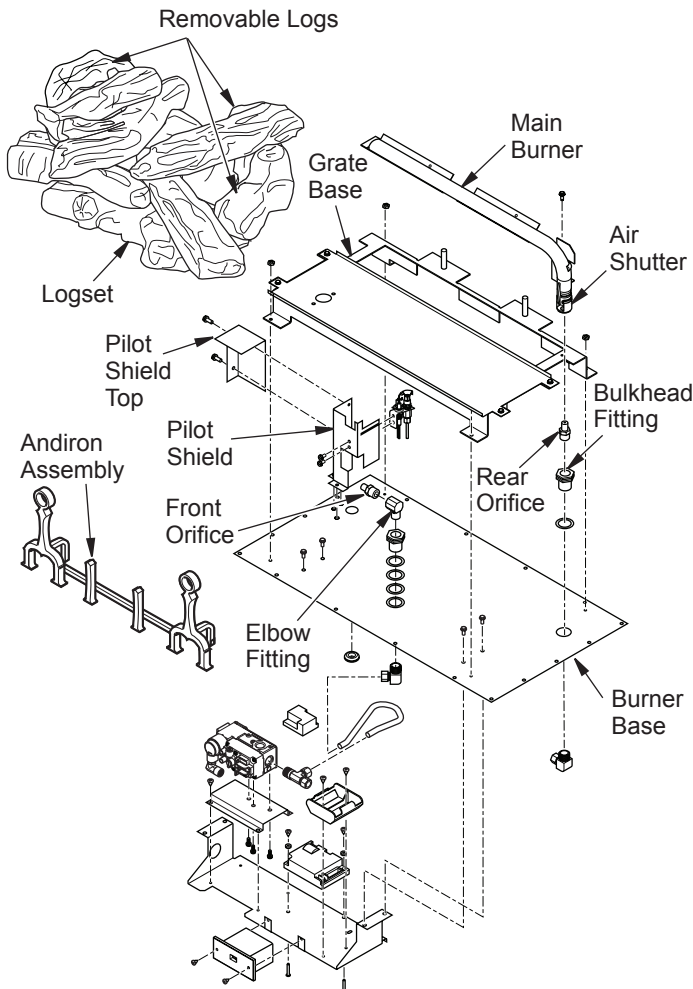

Figure 3 - Removing Orifice for Conversion (Valve Shown Removed from Base for Clarity)
1. Remove andiron by lifting up and away from back of fireplace (see Figure 3).
4. Remove main burner from grate base by removing screw located at right inner corner of firebox, and lifting up and toward the right (see Figure 3).